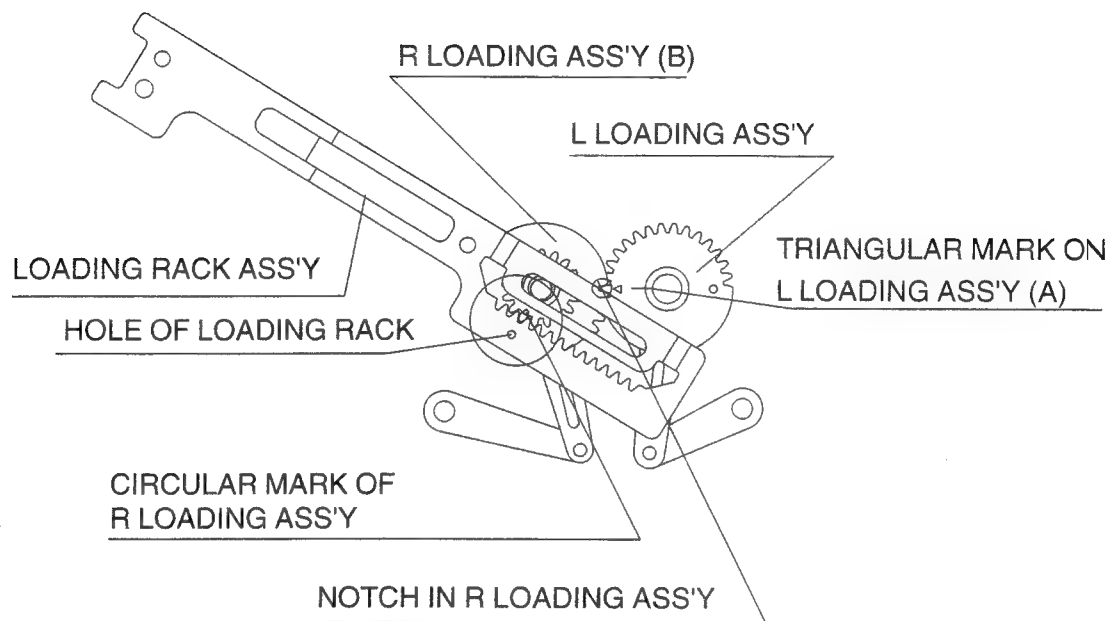

Fig.4-5 DATUM POSITION OF LOADING RACK ASS'Y & R/L LOADING LEVER ASS'YS
- e. Make sure that the triangular mark "A" on the L LOADING ASSEMBLY is aligned with the notch "B" on the R LOADING ASSEMBLY as shown in Fig. 4-5.
- f. Make sure that the teeth of the LOADING RACK ASSEMBLY is aligned with the those of the R LOADING ASSEMBLY so that the hole of the LOADING RACK ASSEMBLY aligns with the circular mark on the R LOADING ASSEMBLY as shown in Fig.4-5.